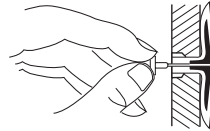

Figure 7 - Popping Open Anchor Wings For Thin Walls
4. For thin walls (1/2\" or less), insert red key into wall anchor. Push red key to "pop" open anchor wings (see Figure 7).